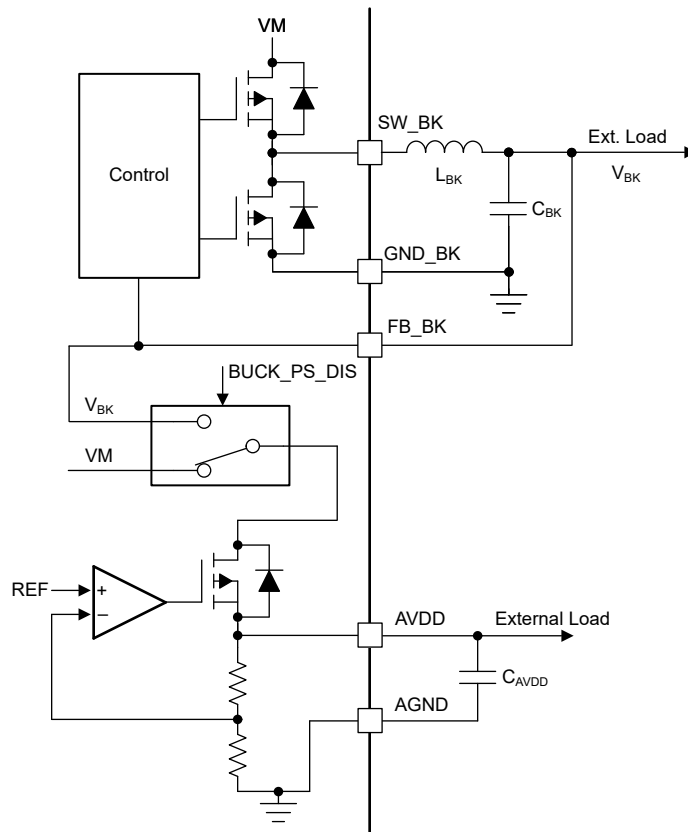

图 8-12. AVDD Power Sequencing on mixed mode Buck Regulator
The AVDD LDO has an option of using the power supply from mixed mode buck regulator to reduce power dissipation internally. The power sequencing mode allows on-the-fly changeover of LDO power supply from DC mains (VM) to buck output (VBK) as shown in 图 8-12. This sequencing can be configured through the BUCK_PS_DIS bit. Power sequencing is supported only when buck output voltage is set to 5.0 V or 5.7 V.